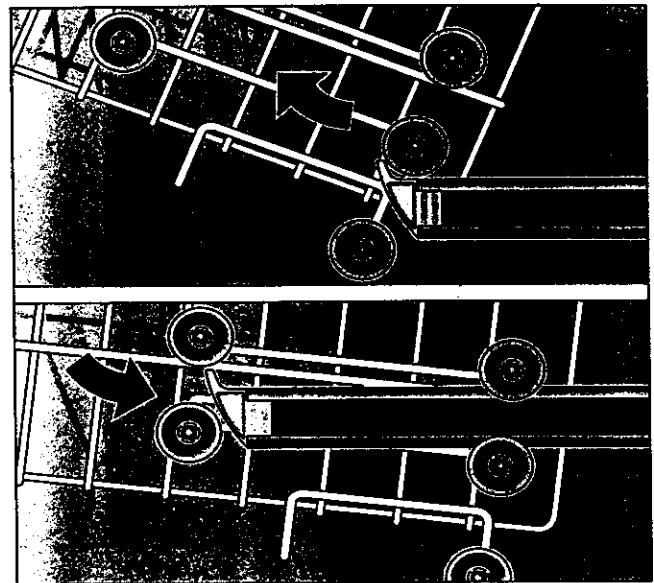

Figure 6.
The upper rack height of the The DLX series dishwashers (SHU 3012 UC and SHU 3016 UC) is adjustable. There are two positions, see figure 6:
- a. First empty upper rack and pull rack partially out to point where rack can be lifted upward as shown in upper illustration of Figure 6.